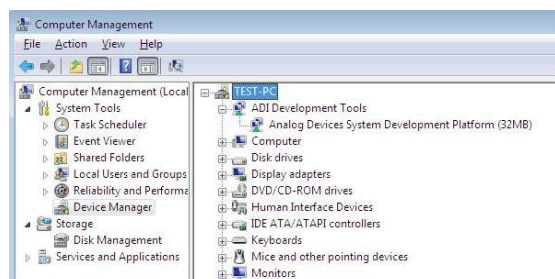

Figure 13. Device Manager:
- iii. The **Computer Management** box appears. From the list of **System Tools**, click **Device Manager** (see Figure 13).